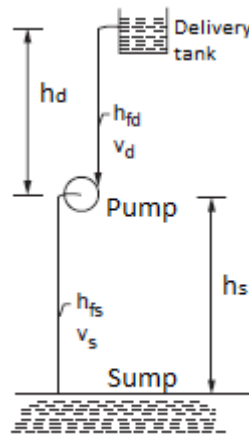

Fig. 5.4 Schematic diagram with suction and delivery pipes
**Answer:** The different types of heads used in centrifugal pump are as shown in figure 5.4, and are defined as follows.